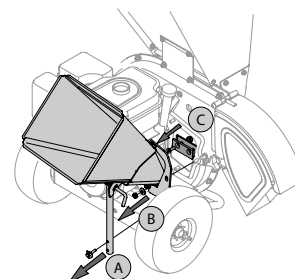

Figure 8
3. Remove the chipper chute support brace from the frame by removing the two hex bolts and saddle washers which secure it. See A in Figure 8.
4. Remove the chipper chute by removing three hex nuts and washers which secure it to the impeller housing. See B in Figure 8.
6. Remove the blade by removing the internal hex screws, lock washers and hex nuts which secure it to the impeller. See C in Figure 8. Retain the hardware.